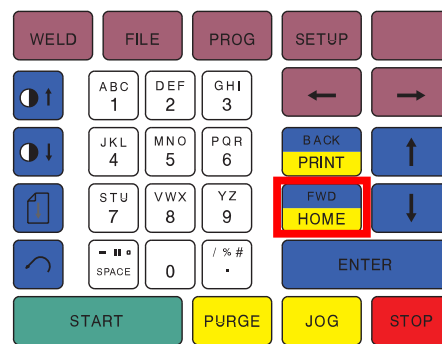

Figure 9 *Power Supply Operator Panel*
6. Press HOME to return the rotor to the home position. See Figure 9.